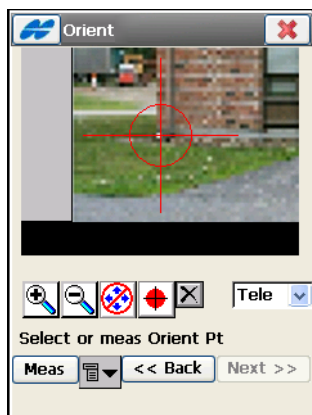

Figure 8-64. Select Orientation Point
- The Pan  button enables drag control of the image. When disabled , tap on the image in the general area of where the orientation point is located. The image will zoom to this point and show a crosshair (Figure 8-64 on page 8-62).
- *Tele* (telescope) is the default zoomed-in view of the crosshair (Figure 8-64)